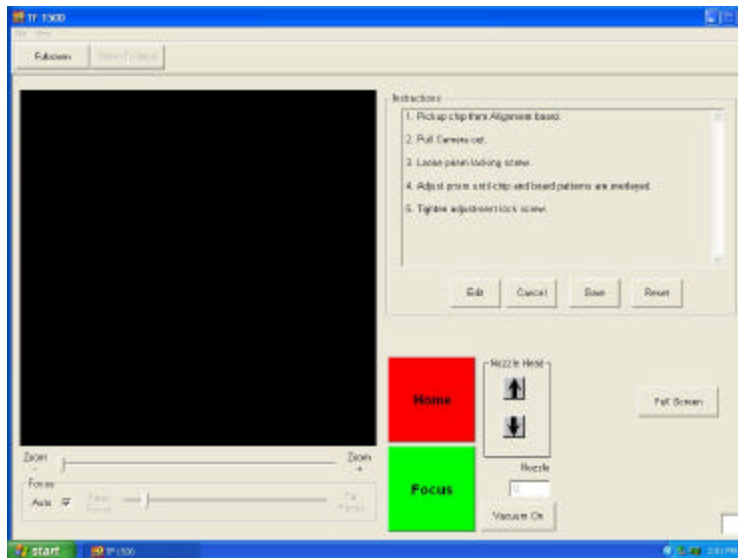

Figure 9
- iii. Monitor now shows calibration screen. (Figure 9)